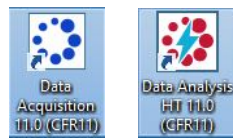

Figure 4-32: Octet Data Acquisition and Data Analysis HT CFR Software Desktop Shortcuts
- Launch the Octet Data Acquisition or Data Analysis CFR software by double-clicking on its desktop shortcut (Figure 4-32):